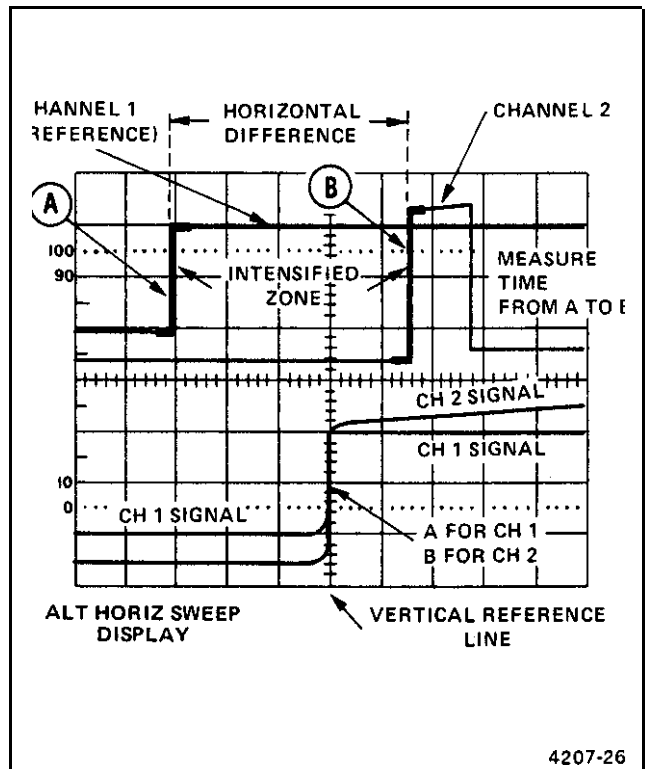

Figure 4-16. Time difference between two time-related pulses, differential time method.
7. Rotate the B DELAY TIME POSITION control to move the intensified zone to the rising edge of the reference pulse (on the A trace): then fine adjust until the rising portion (on the B trace) is centered at any convenient vertical graticule line (see Figure 4-16, point A).
trace) to the same vertical reference point as used in preceding step 7 (see Figure 4-16, Point B). Observe the A trace to position the intensified zone to the correct pulse (if more than one pulse is displayed). Do not change the setting of the Horizontal POSITION control.